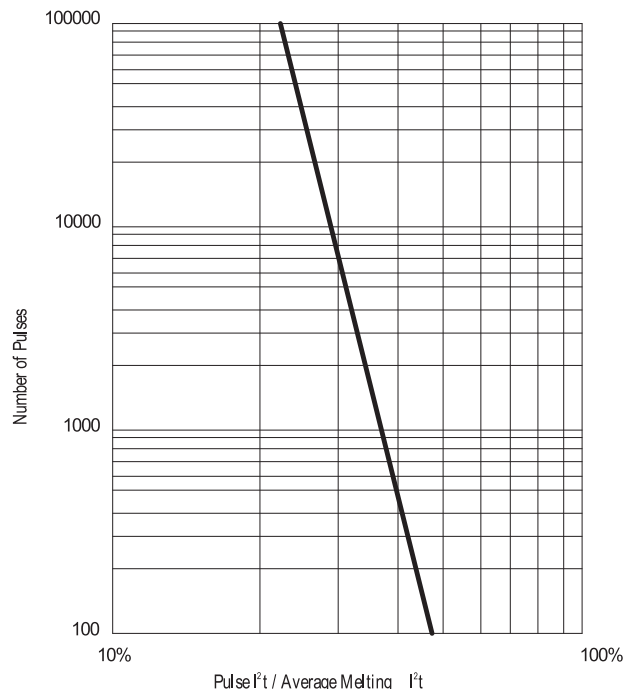

Figure 3
Step 2. Determine the required value of Normal Melting I²t by referring to Figure 3. A figure of 22% is shown in Figure 3 for 100,000 occurrences of Pulse I²t calculated in Step 1. This Pulse I²t is converted to its required value of Normal Melting I²t as follows: